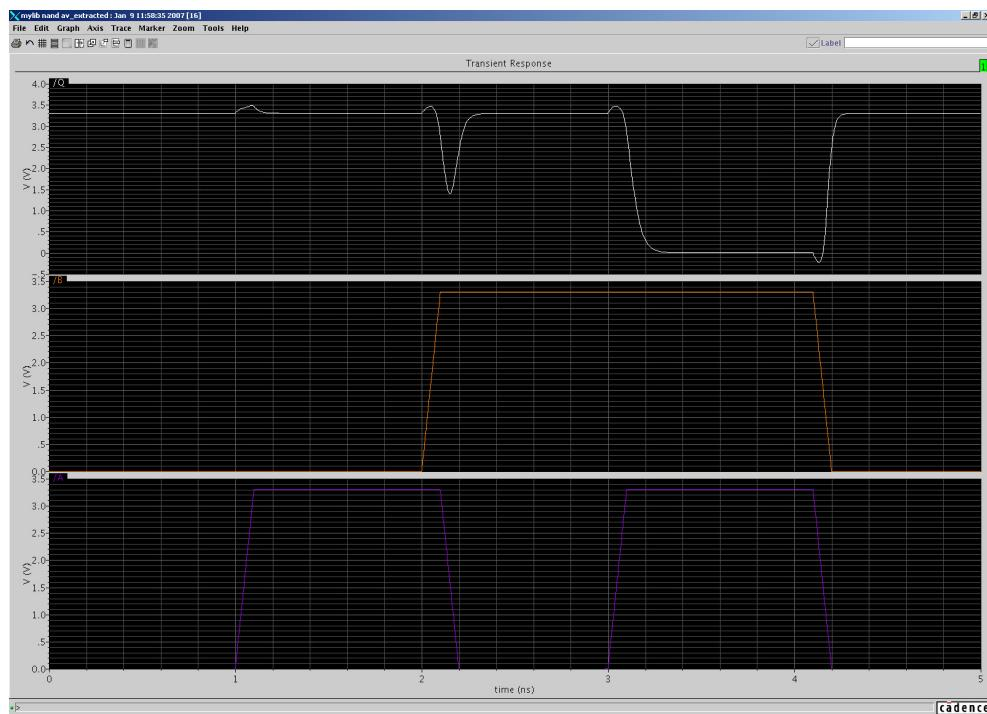

Figure 65. Complete NAND Gate Simulation Results
8. Verify that you get a simulation results graph as shown in Figure 65.